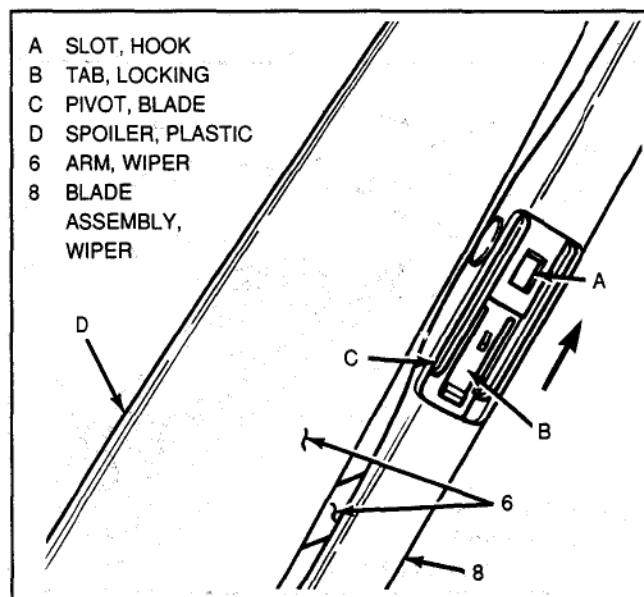

Figure 13 – Wiper Blade Assembly Installation
1. Position pivot of blade assembly (8, Figure 13) in hook of wiper arm (6), then pull blade assembly upward until locking tab of blade pivot engages slot in arm hook.